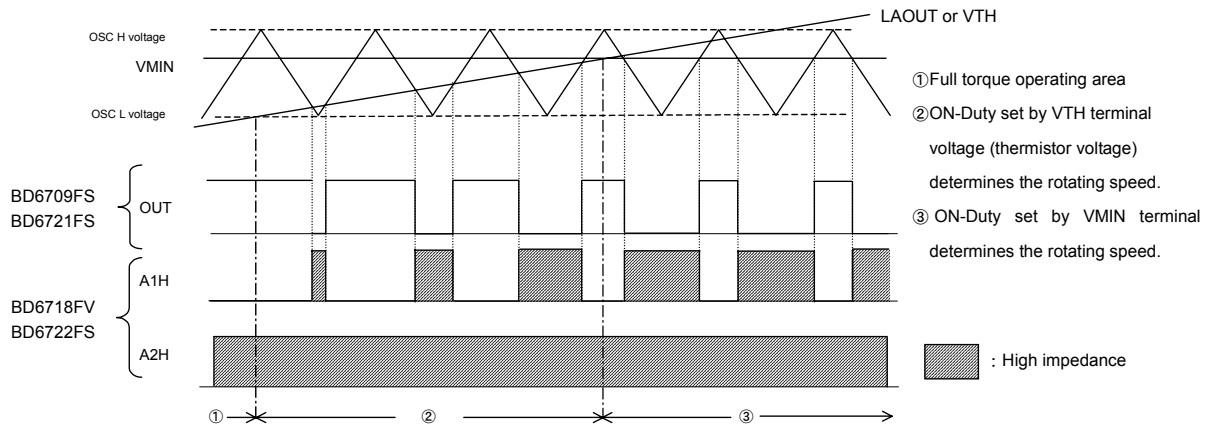

Fig.73 DC input PWM operation timing chart
As shown in Fig.73, DC voltage input from LAOUT(BD6709FS, BD6721FS), or DC voltage input from VTH(BD6718FV, BD6722FS) are compared with triangle wave produced by charging and discharging current to the capacitor connected to COSC to change ON-DUTY.
(Same as area ① in Fig.73) Rotating speed in full torque operation (ON-DUTY = 100%)
(Same as area ② in Fig.73) Rotating speed is determined by ON-DUTY set by LAOUT terminal voltage or VTH terminal voltage.
(Same as area ③ in Fig.73) Rotating speed is determined by ON-DUTY set by VMIN terminal voltage.